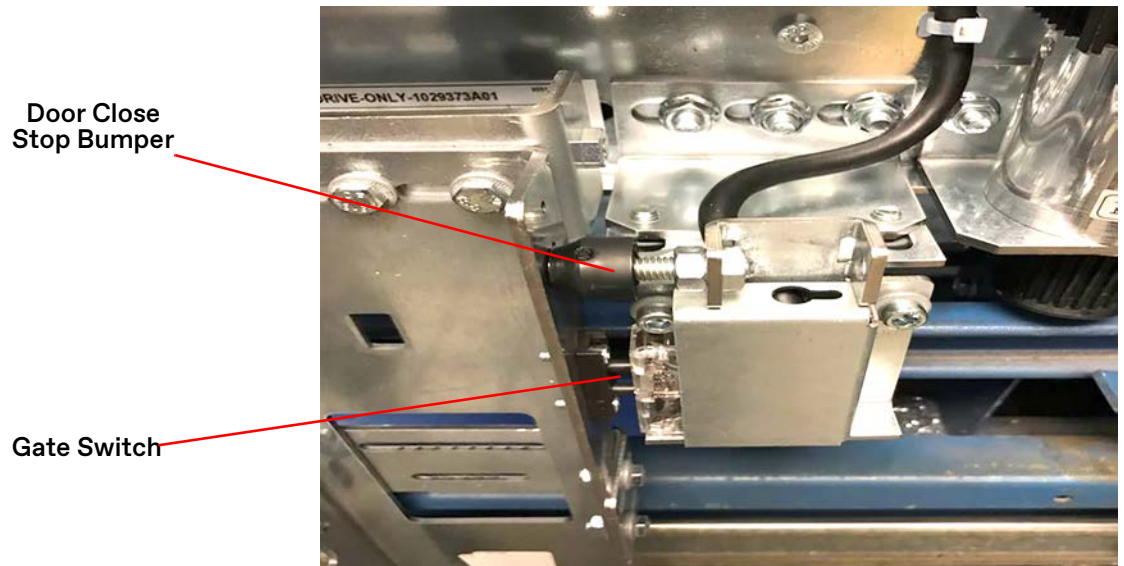

Figure 6 - Adjust Gate Switch and Door Stop Bumper
6. Adjust the gate switch and the door stop bumper. See Figure 6.